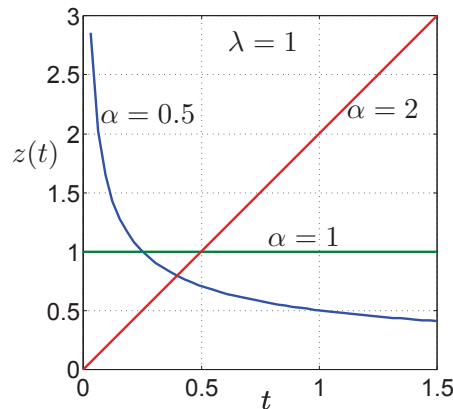

Figure 11: Weibull failure rate function.
- The failure rate function is (fig. 11):